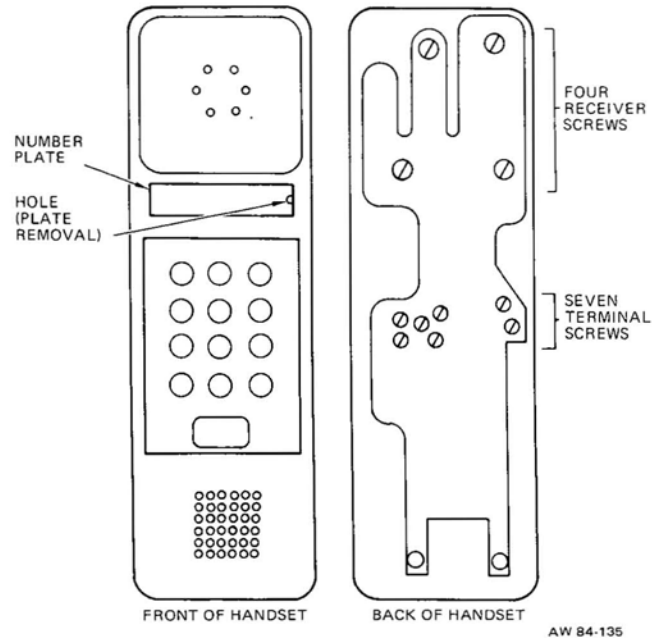

Figure 4: Trendline Handset
**3.01** To remove the dial from the telephone handset, proceed as follows. (Refer to Figure 4 throughout the procedure.)
- (d) Install the seven terminal screws. (See Figure 4.)